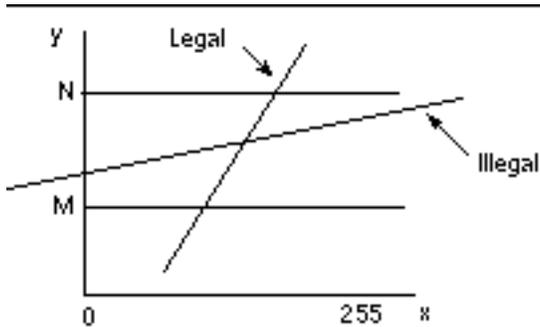

Figure 4-1 Creator Depth-cueing
- The parameters for `xil_rescale` must be chosen such that y values of the line represented must span the range of values between N and M while the x values are within 0 and 255. See Figure 4-1.